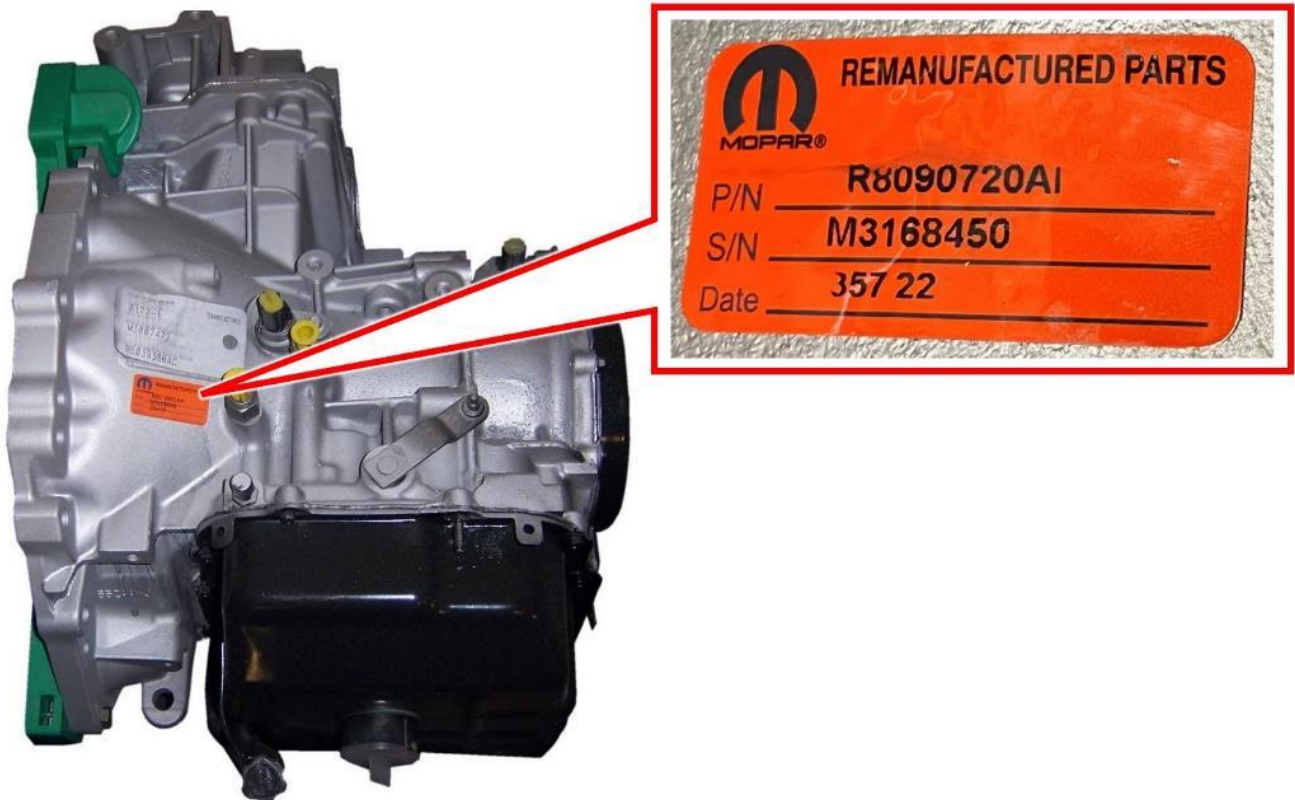

Figure 2 – Remanufactured Transmission – Inspect Serial Number
1. Inspect the transmission for **a sticker** indicating that it has been remanufactured (Figure 2).
2. If **a remanufactured** sticker was located on the transmission, read the sticker Serial Number (Figure 2).